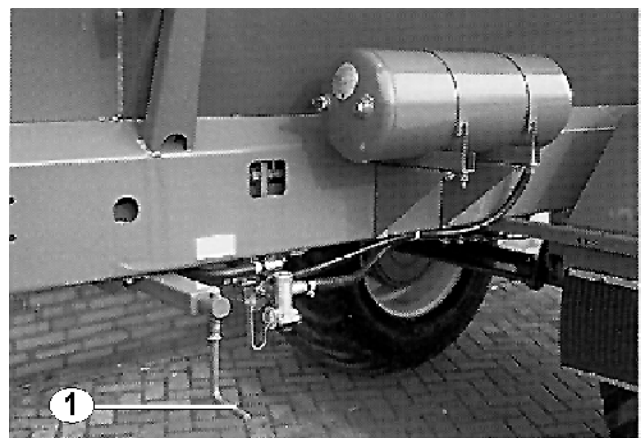

Fig. 14
- Turn hand crank (Fig. 14) located on the side of the chassis to the left until stop.
- Release parking brake (Fig. 14/1):